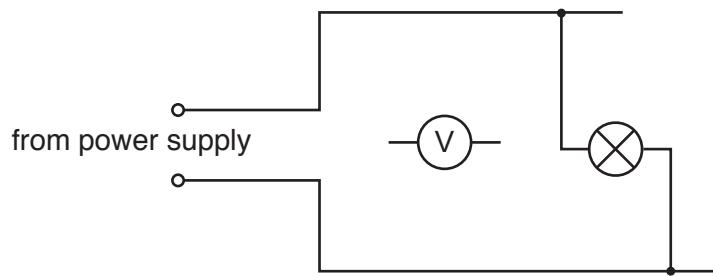

Fig. 13
- 12 (a) Fig. 13 shows a voltmeter ready to be connected to a partly completed circuit.